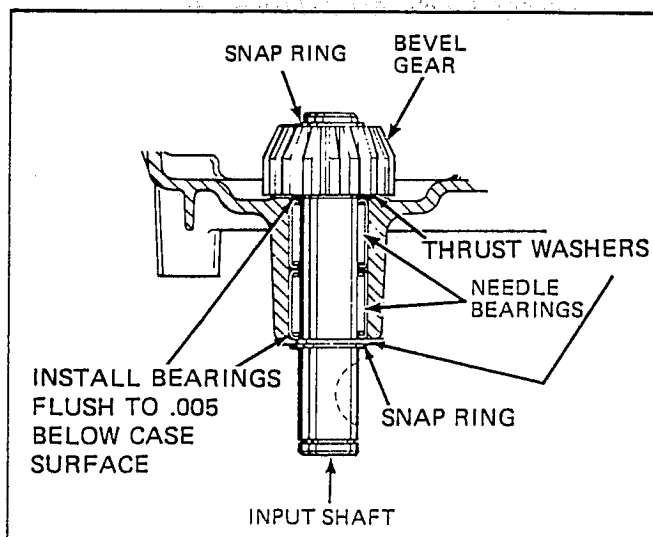

Figure 2-26
9. Remove snap ring from input shaft, remove bevel gear and pull shaft through case. See Figure 2-26.
10. Input shaft needle bearings should be installed flush to .005 below bearing bore surfaces from inside and outside case. See Figure 2-26.